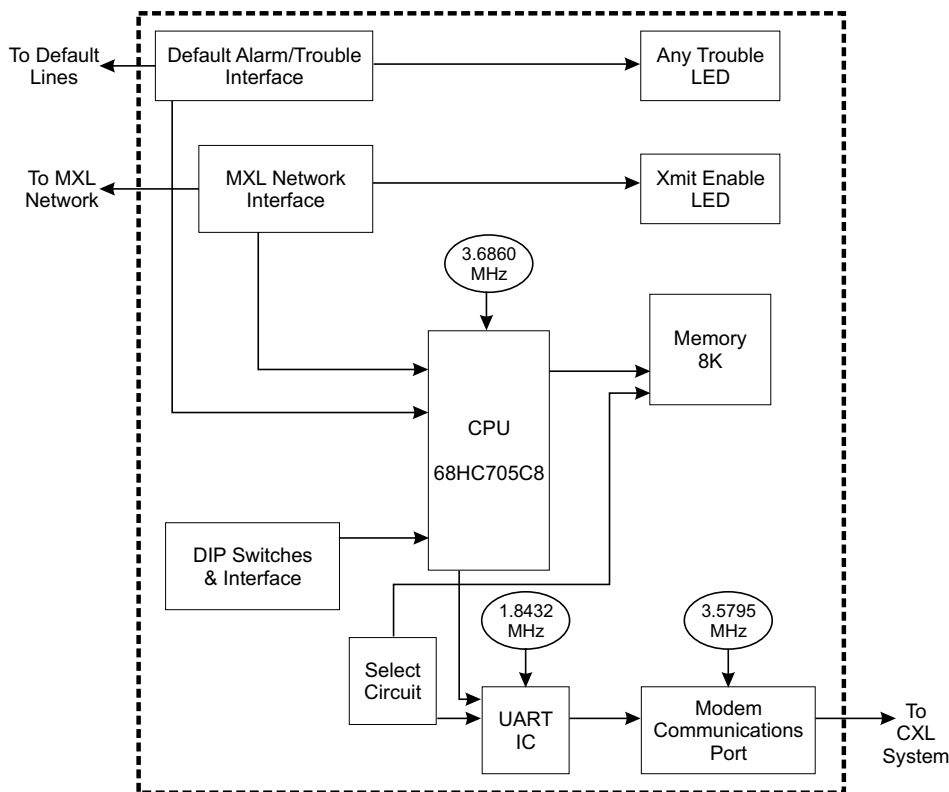

Figure 9
**CMI-300 MODULE** (Refer to Figure 9)